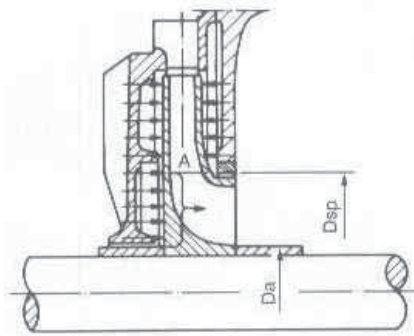

Fig.3 – Rotor axial thrust
- Speed can be exceeded by 10% for a short period of time, considering the allowable pressure limitations according to figure 3.
An axial force A, which is caused by the differential pressure from the area between DSP (wear ring inner diameter) and e_{Da} (stage sleeve diameter) acts on each impeller. See Figure 3. This axial thrust tends to displace the impeller to pump suction side.